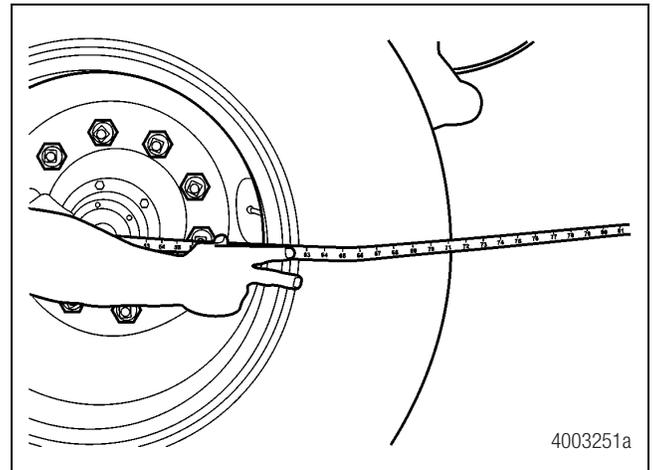

Figure 8.7
**NOTE:** An acceptable gauge point for measuring "A" and "B" is the edge of the wheel rim. This measurement should be made at the height of the axle spindles. Verify that the rim is not damaged, the same tires and rims are mounted on each side of the vehicle and the tires are correctly inflated. Figure 8.7.